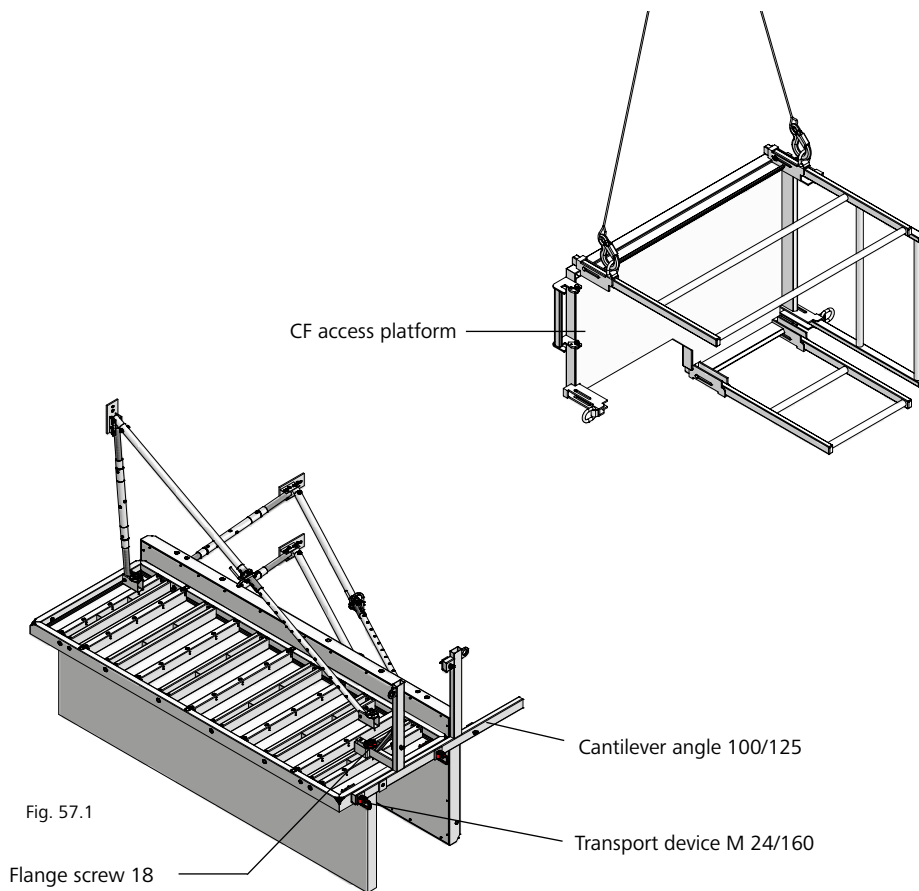

Fig. 57.1
1. Attach the cantilever angle 100/125 with two transport devices M 24/160 to the two transport holes in the frame of the column panel. Screw the scaffold bracket integrated into the cantilever angle with a flange screw 18 to the multi-function nut of the column panel (Fig. 57.1).
2. Fold up the guardrailing of the access platform and attach a 2-rope crane sling to the crane eyes of the access platform (Fig. 57.1).